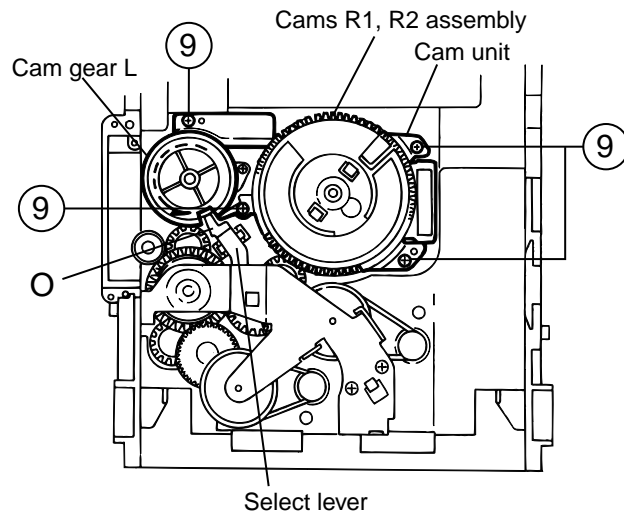

Fig.17
4. While turning the cam gear L, align the pawl "O" position of the select lever to the notch position(Fig.17) on the cam gear L.
5. Remove the four screws 9 retaining the cam unit(cam gear L and cams R1/R2 assembly)(See Fig.17)